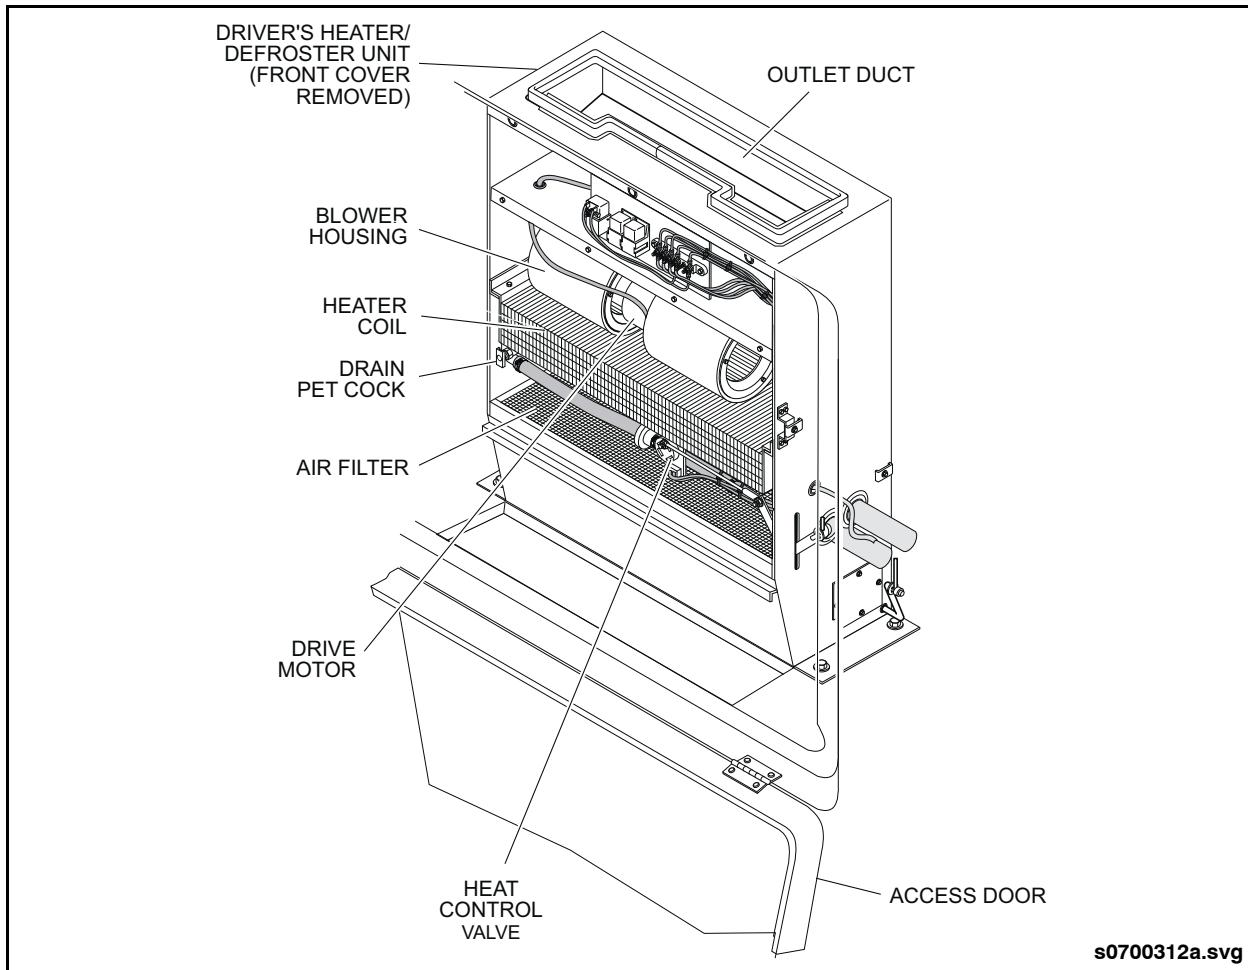

Fig. PM-25: Defroster Inspection
- Inspect air filter. Clean or replace as required. See "Fig. PM-25: Defroster Inspection" on page 55.